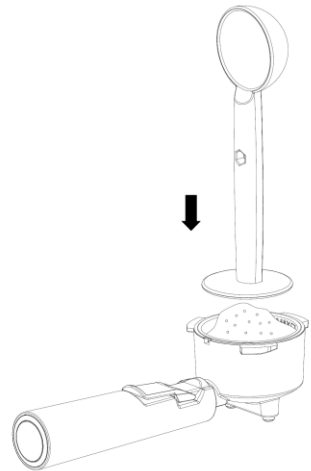

Fig. 5
2. Pack it lightly using the tamper at end of the spoon (fig. 5). One spoonful of coffee is usually sufficient for most people. When packed the coffee should not be above the MAX line marked on the filter.